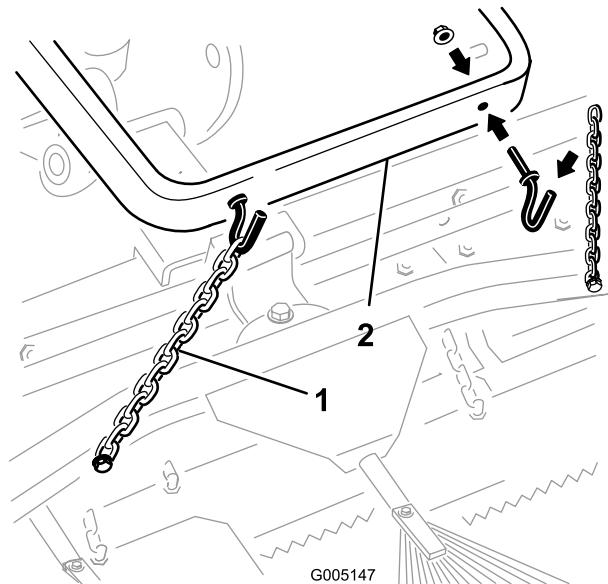
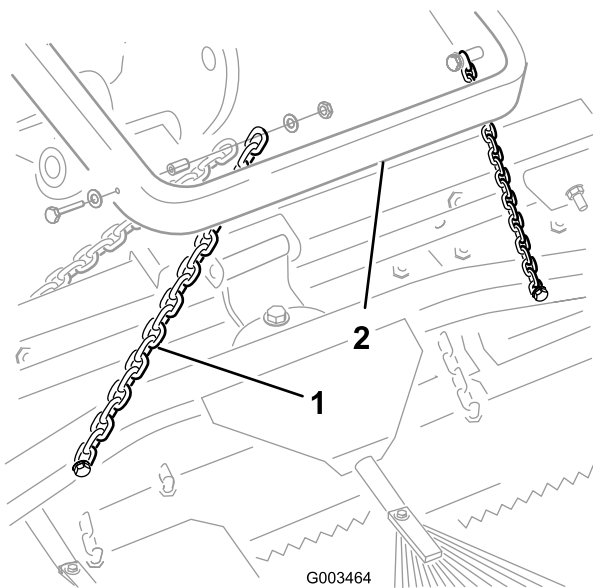

Figure 10
Figure 11
- A. Unhook or disconnect the transport chains from the lift arm as shown in Figure 10 or Figure 11.